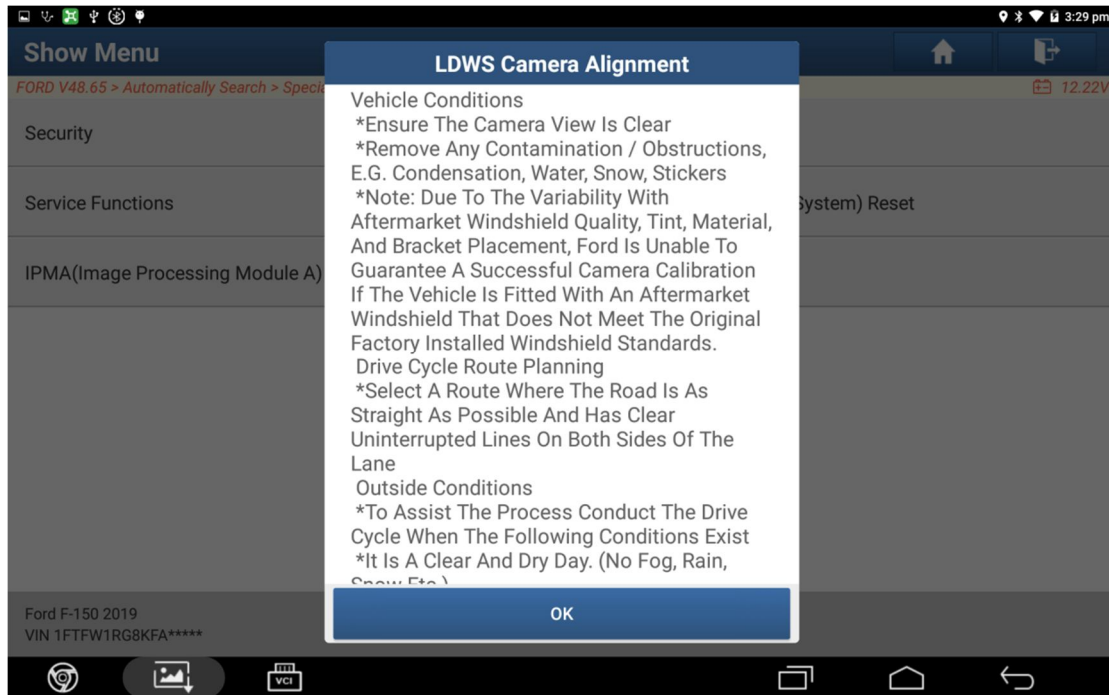

Figure 8
7. Prompt to perform the function, the conditions required by vehicle and external conditions (Figure 8).